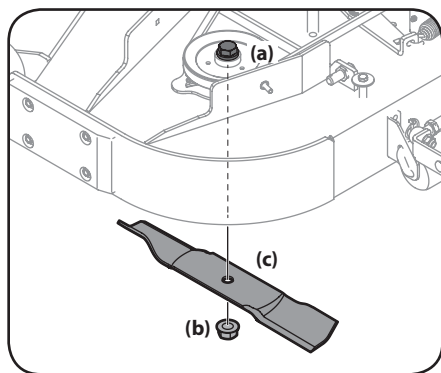

Figure 4-19
4. Use a 1-1/8" socket wrench on the pulley side of the hex screw (a) See Figure 4-19.